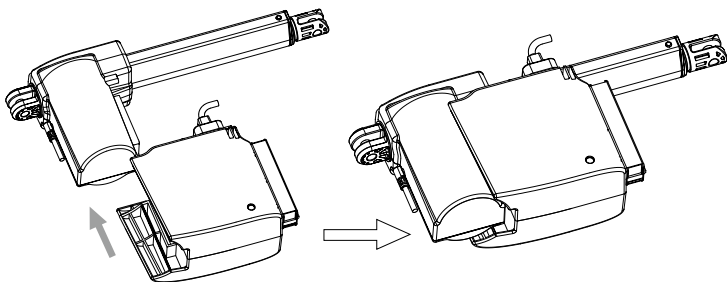
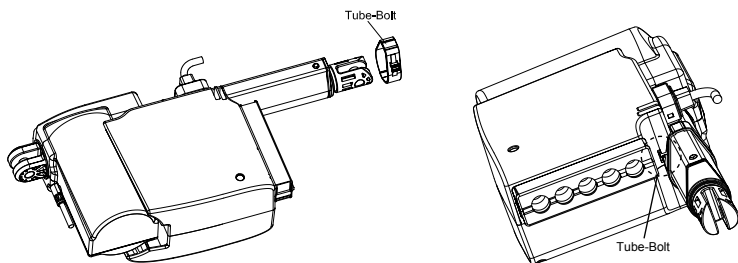

Fig. 1
Fig. 2
4.1 Step 1: Align a bolt on LAK4D controller with a notch on LAN5 to insert downward(Fig. 1). There is a tube-bolt circled in the fig.2 to fix an actuator and controller.